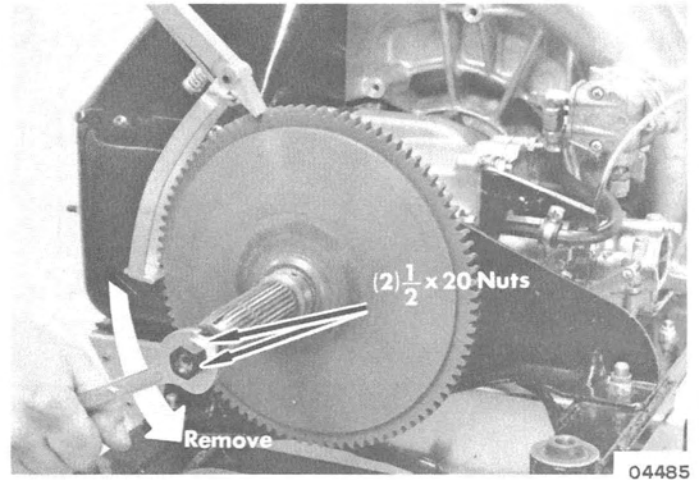

Figure 3. Removing Flywheel Stud
5. Remove flywheel stud with a suitable stud remover (cam lock type) or double nut procedure. (Figure 3)